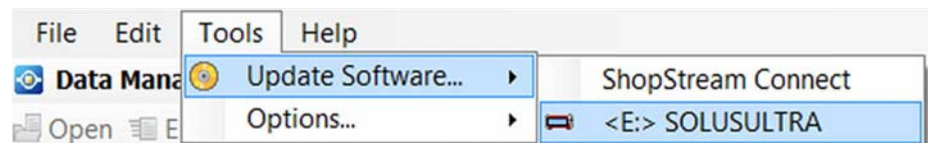

Figure 9-5
1. Select **Tools > Update Software > (diagnostic tool type - e.g. MODIS, SOLUS PRO, Vantage Ultra etc.)** from the Menu bar (Figure 9-5).